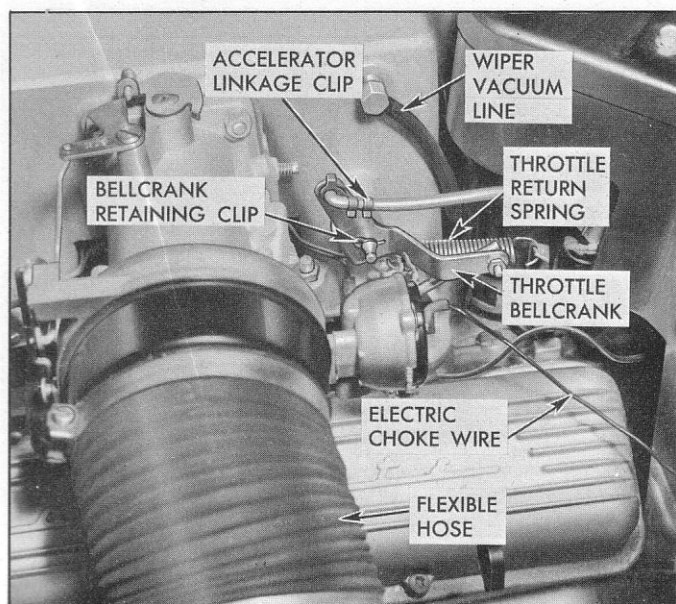

Fig. 27—Air Meter Connection Locations
1. Disconnect washer vacuum line at manifold fitting, accelerator linkage at throttle bellcrank (fig. 27) electric choke lead wire, and bellcrank return spring.
1. Disconnect throttle return spring and accelerator linkage at throttle bellcrank (see fig. 27). Remove bellcrank retaining clip, slide bellcrank from pivot shaft, leaving it attached to the air meter.